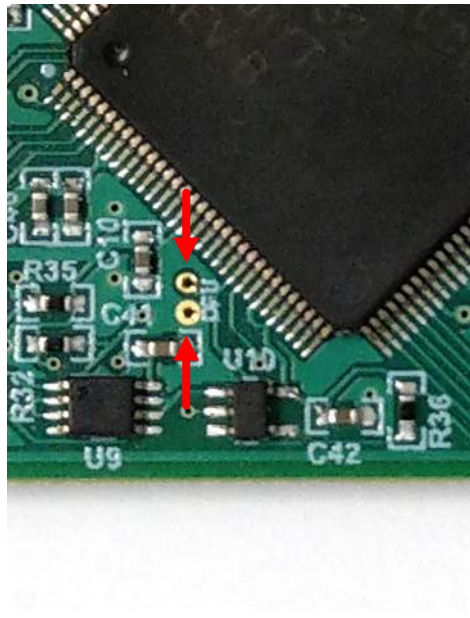

Figure 5-2. Test Points Used to Enter DFU Mode Manually
- Short the two test points labeled *DFU* (see Figure 5-2) with a pair of tweezers (or wire) while pressing the RESET button. If this is done correctly, LED D1 on the SCB should turn OFF while LED D5 (the power LED) is still ON. If LED D1 is still ON, the GUI firmware is still active and the device has not entered DFU mode.